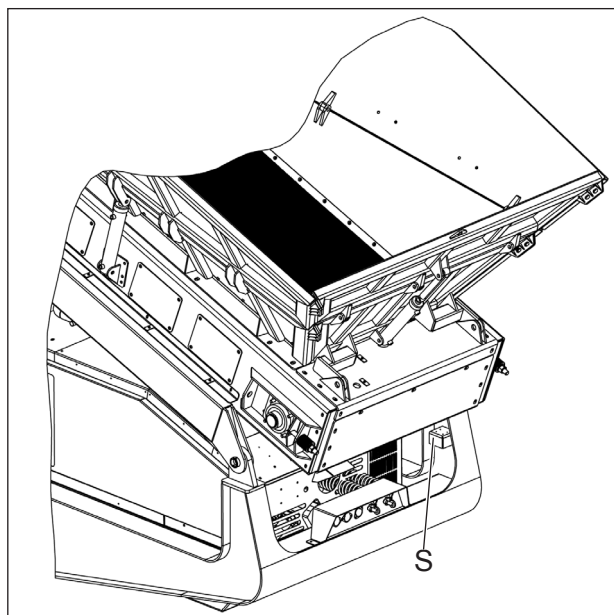

Figure 5.2 - Remote Control Socket
4. Remove the dummy plug and insert the remote control unit into it's socket (S) at the rear of the machine, Ref: Figure 5.2.